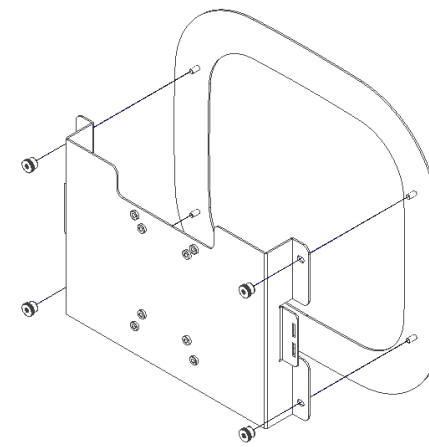

Figure 3 - Remove Mounting Plate
Step 3 – The torsion spring that is used to secure the trim assembly to the tile bridge is shipped separately (to prevent damage) and must be installed prior to the first use. To install torsion springs, first detach the mounting plate from the trim face by removing the two thumb nuts (Figure 3).